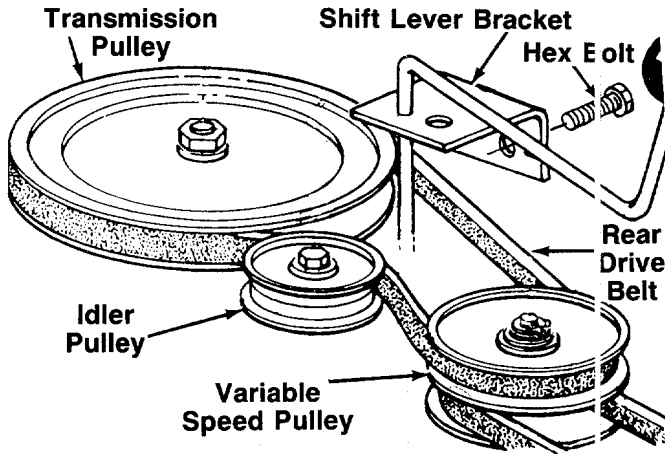

FIGURE 19.
3. Push the idler pulley toward the right side of the unit. Lift the belt over the idler pulley. See figure 19.
- Remove the two bolts which hold the shift lever bracket to the frame on the left side of the unit. Swing the bracket toward the right so the belt can be removed from the transmission pulley. See figure 19.